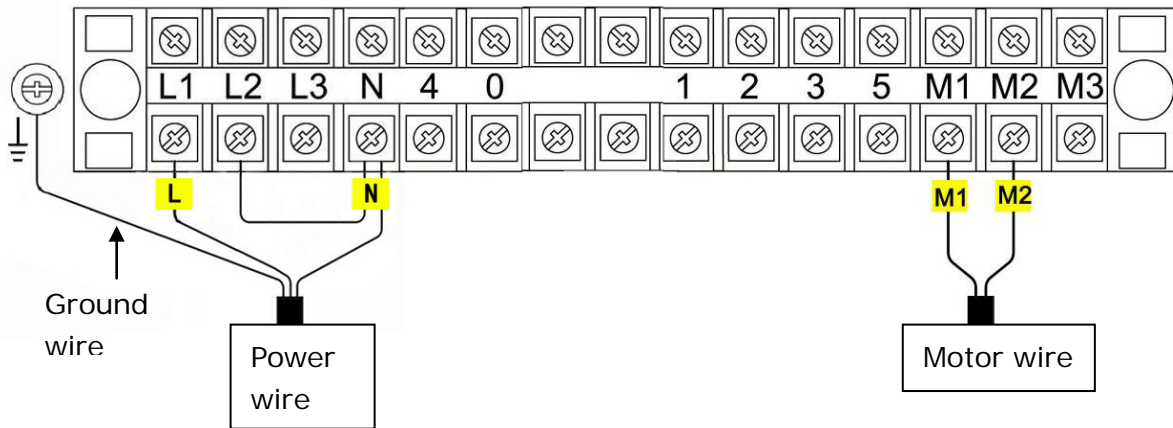

Fig.7
1. Connect the wire according to below diagram. (Fig.7)